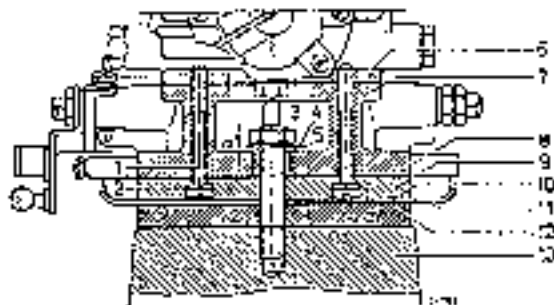

Fig. 01-4/3
The purpose of the spacer sleeves is to ensure that the tightening torque is transferred not to the carburetor flange (7), but to the grey cast iron flange (9). For this reason the spacer sleeves must project beyond the carburetor flange by the distance "a" — appr. 0.2 mm (Fig. 01-4/3).